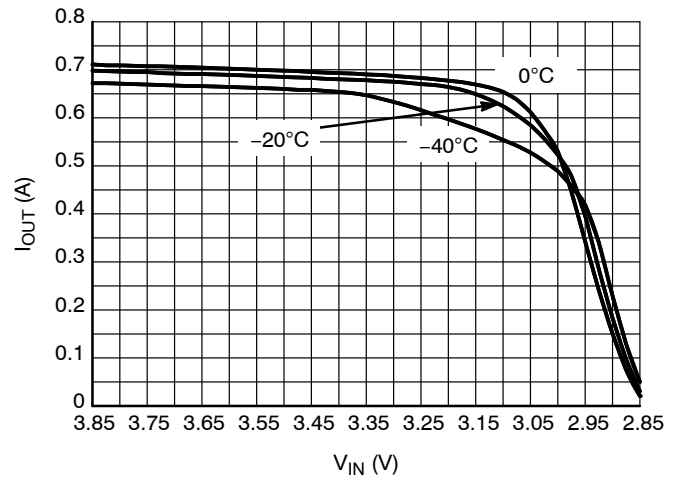

Figure 18. Output Current Capability for the 2.85 V Version
26. For output current capability for  $T_A < 0$  °C, please refer to Figures 18 to 22.